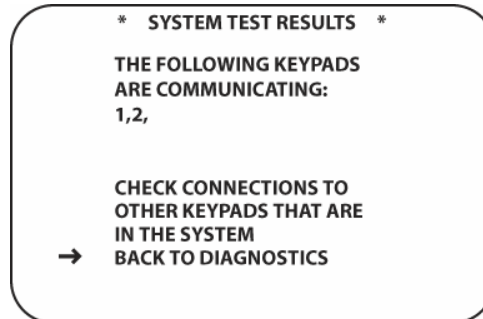

Figure 122 System Test Screen
4. With the cursor next to **RUN SYSTEM TEST**, press the **Set Button [oval 18]**. The **SYSTEM TEST RESULTS** screen will appear. (**Figure 122**)